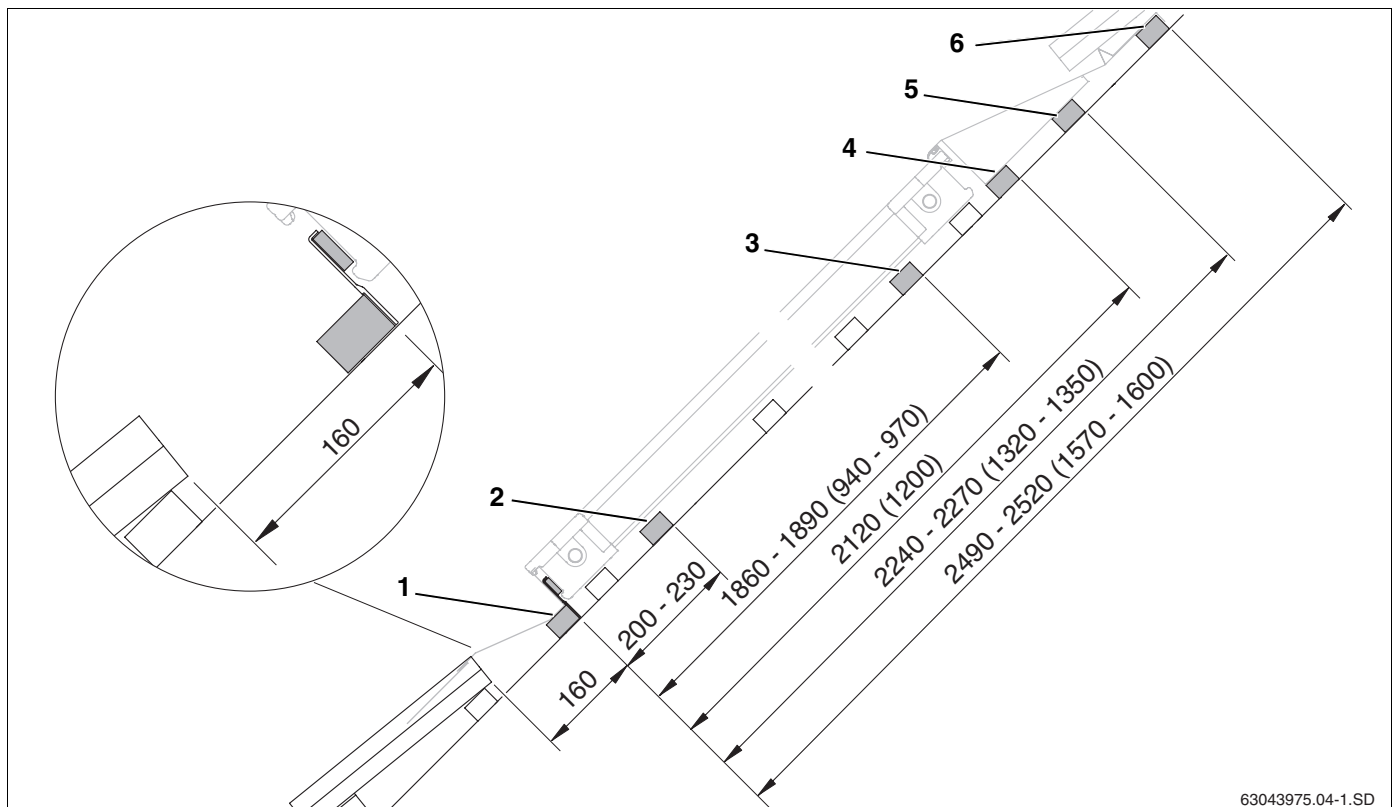

Fig. 14 Distances between additional roof battens when installing one row (measurements in mm, values in brackets = landscape version)
- ▶ Attach first roof batten with the anti-slip protection devices (Fig. 14, **Item 1**).
- ▶ Attach second roof batten for the lower side clamp (Fig. 14, **Item 2**).
- ▶ Attach third roof batten for the upper side clamp (Fig. 14, **Item 3**).
- ▶ Attach fourth roof batten for supporting the polystyrene wedge of the upper facing panels (Fig. 14, **Item 4**).
- ▶ Attach fifth roof batten for supporting the upper facing panels (Fig. 14, **Item 5**).
- ▶ Attach sixth roof batten for supporting and fastening the upper facing panels (Fig. 14, **Item 6**).
When installing more than one row, the roof battens in the first row must be laid as if installing one row (Fig. 14). The 5th and 6th batten for the lower row are not needed.